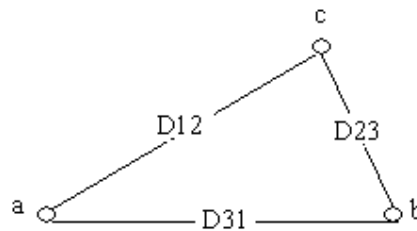

Fig. N4
**(iii) Inductive interference:** Inductive interference is said to occur when voltages are induced in adjacent communication lines by the unsymmetrically spaced power lines. Fig N4 shows